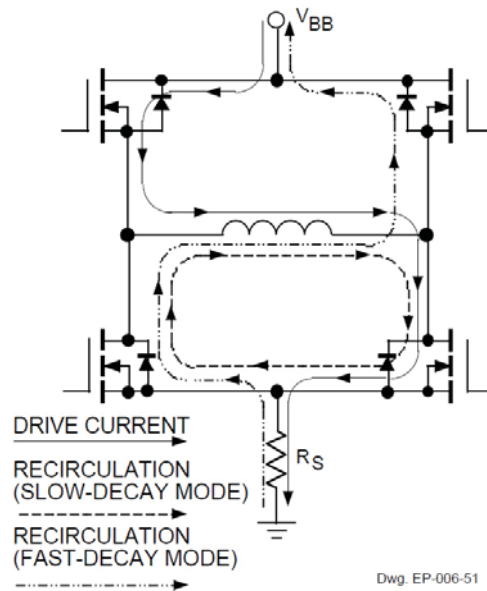
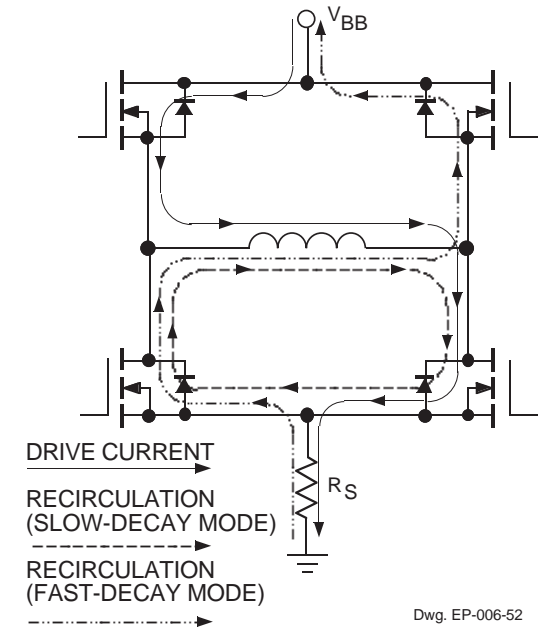

Figure 6. Current Paths
Figure 11. Current Paths with Synchronous Rectification Enabled
**Internal PWM Current Control** Each H-bridge is controlled by a fixed-off-time PWM current-control circuit that limits the load current to a desired value ( $I_{TRIP}$ ). Initially, a diagonal pair of source and sink DMOS outputs are enabled and current flows through the motor winding and the current-sense resistor ( $R_S$ ) as shown in figure 6. When the voltage across  $R_S$  equals the DAC output voltage, the current-sense comparator resets the PWM latch, which turns off either the source drivers (slow-decay mode) or both the source and sink drivers (fast-decay or mixed-decay modes) and the current recirculates as shown in figure 6. During this recirculation the current decreases until the fixed-off time expires. The appropriate output drivers are enabled again, the motor-winding current again increases, and the PWM cycle is repeated.
**Synchronous Rectification** When a PWM off cycle is triggered, by a bridge disable command or internal fixed-off time cycle, load current will recirculate according to the decay mode selected by the control logic (figure 6). The A3977/79 synchronous rectification (SR) feature will turn on the appropriate DMOS devices during the current decay and effectively short out the body diodes with the low  $r_{DS(on)}$  driver (figure 11). In fast-decay synchronous rectification mode the voltage across  $R_S$  is monitored to prevent reverse conduction. Just before the recirculation current reaches zero all of the DMOS devices are turned off and current flows through the body diodes.